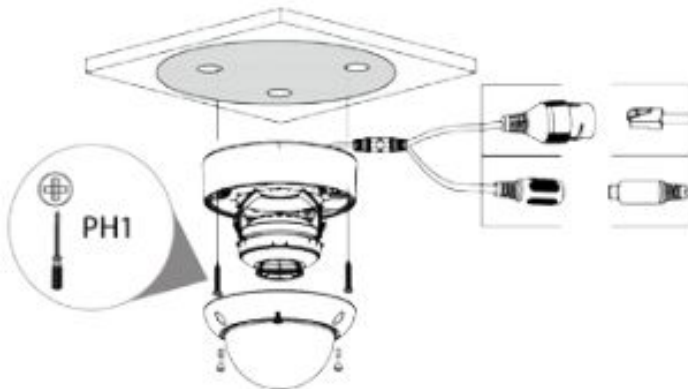

Figure 2-2
Step 2 Remove the dome cover. If using the side exit, remove the side exit panel with pliers. Connect the appropriate cables then thread the pigtail to the side. Thread in and install the mounting screws to the expansion bolts. See Figure 2-2.